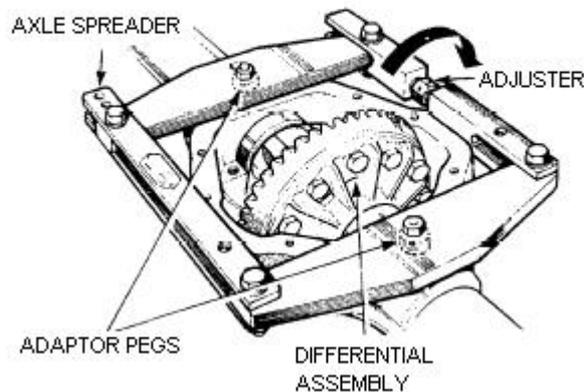

Figure 206 Removing the Differential Assembly
- g. Install the axle spreader (Table 3, Serial 49) and adapter pegs (Table 3, Serial 50) onto the differential housing, ensuring that the adapter pegs are fully inserted into the peg holes (Figure 206).